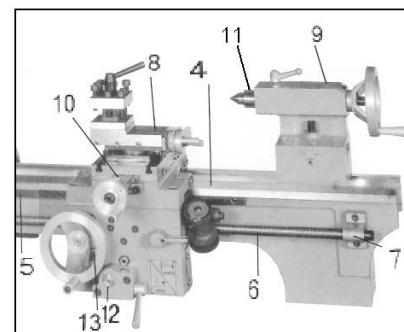

**Fig 25**
Each slide is fitted with a gib strip and can be adjusted with screws (1, Fig 25) fitted with lock nuts (2).